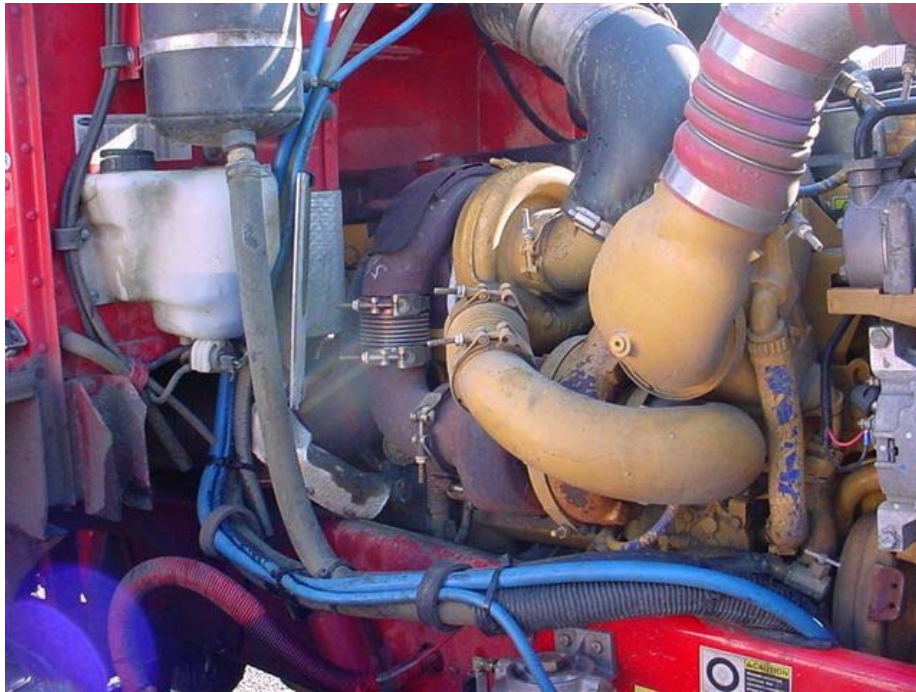

Figure 7 – Routing the Hoses
1. Measure the distance from the **return** port on the filter to the **supply** port on the evaporator. Run the tape measure along the same route that the hose will follow. Add 1.5 to 2" slack to allow for engine vibration. See Figure 7 for typical routing.